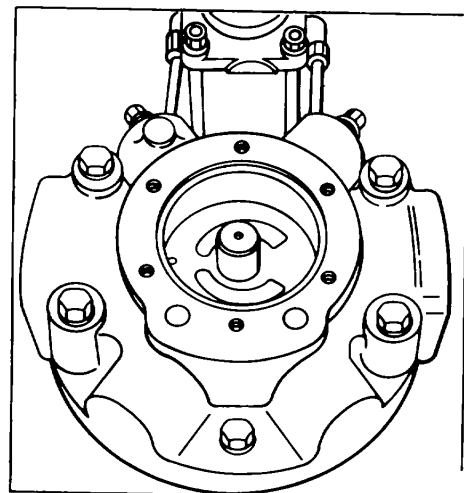

Figure 108.
2. Remove charge pump spacer assembly (48), which includes the spacer and a dowel pin. Do not remove the dowel pin from the spacer assembly unless damaged. Note the relationship of the lower valve plate (42), upper valve plate (45), and spacer assembly (48) which is determined by the alignment of the dowel pin with the recessed hole in the inner face of the charge pump cover (10). This relationship must be preserved upon reassembly to insure the proper function of the charge pump. Remove charge pump assembly (47) consisting of inner and outer rotor. See Fig. 108.